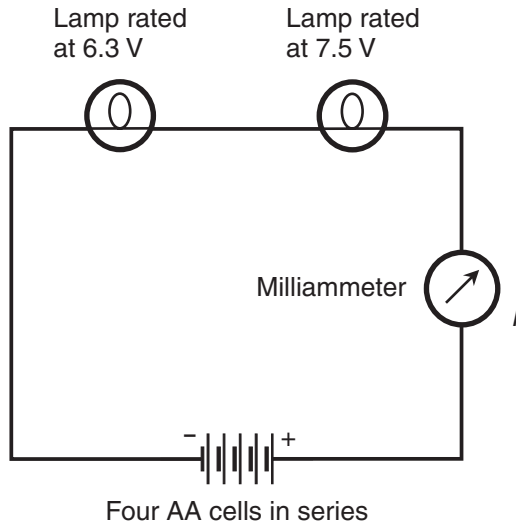

Figure DC19-3 *Measurement of current I drawn by the combination of two dissimilar lamps in series.*
Set your meter for DC milliamperes, and connect it as shown in Fig. DC19-3 to measure the current I drawn by the series combination of lamps. I obtained a reading of 139 milliamperes (mA), equivalent to 0.139 ampere (A), considerably less than the current drawn by the pair of 6.3-V lamps in series.